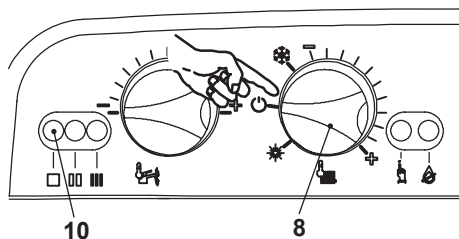

Fig. 7.4
- To turn the boiler off set the function selector 8 to the position shown in Fig. 7.4. The appliance operation light 10 will flash